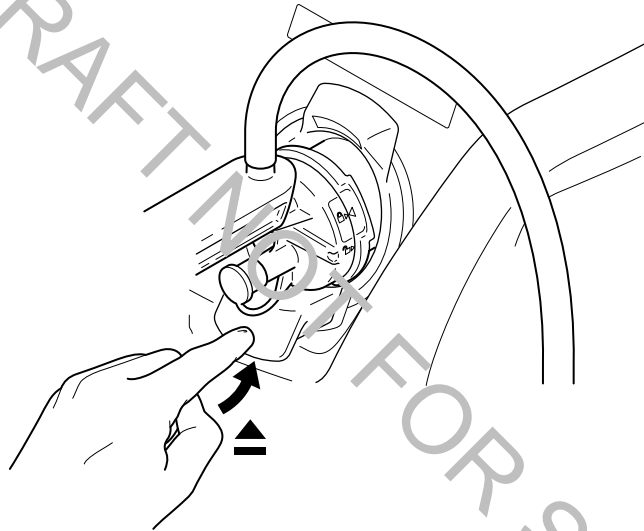

Figure 31 – Eject the Manifold
2. Push the EJECT button to release the specimen collection manifold from the rover receptacle (Figure 31).